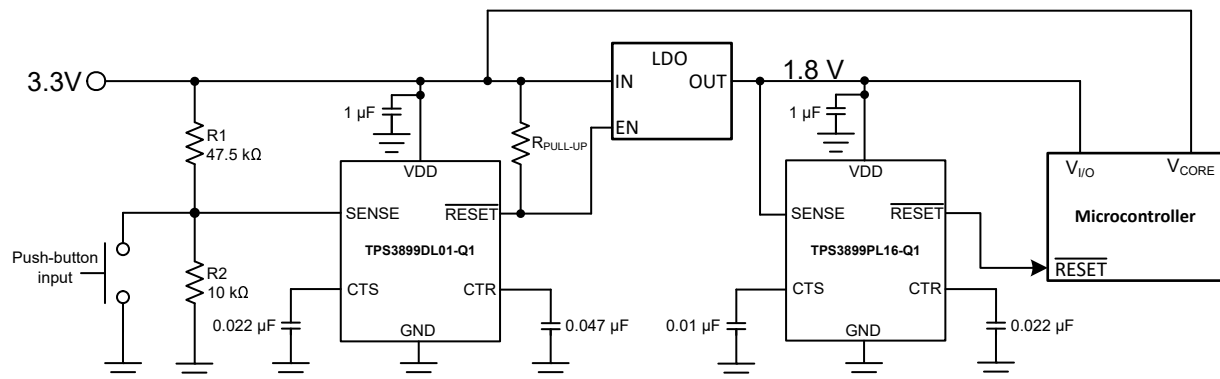

图 8-1. TPS3899-Q1 Voltage Rail Monitor and Power-Up Sequencer Design Block Diagram
A typical application for the TPS3899-Q1 is voltage rail monitoring and power-up sequencing as shown in 图 8-1. The TPS3899-Q1 can be used to monitor any rail above 0.8V. In this design application, two TPS3899-Q1 devices monitor two separate voltage rails and sequences the rails upon power-up. The TPS3899DL01-Q1 is used to monitor the 3.3V main power rail and the TPS3899PL16-Q1 is used to monitor the 1.8V rail provided by the LDO for other system peripherals. The $\overline{\text{RESET}}$ output of the TPS3899DL01-Q1 is connected to the enable (EN) input of the LDO with an external pull-up resistor $R_{\text{PULL-UP}}$ to the 3.3V power rail. The $\overline{\text{RESET}}$ output of the TPS3899PL16-Q1 is connected to the $\overline{\text{RESET}}$ input of the microcontroller. A reset event is initiated on either voltage supervisor when the VDD voltage is less than $V_{\text{IT-}}$, falling threshold voltage. For a system reset event, a push-button input is placed at the SENSE pin of the TPS3899DL01-Q1.